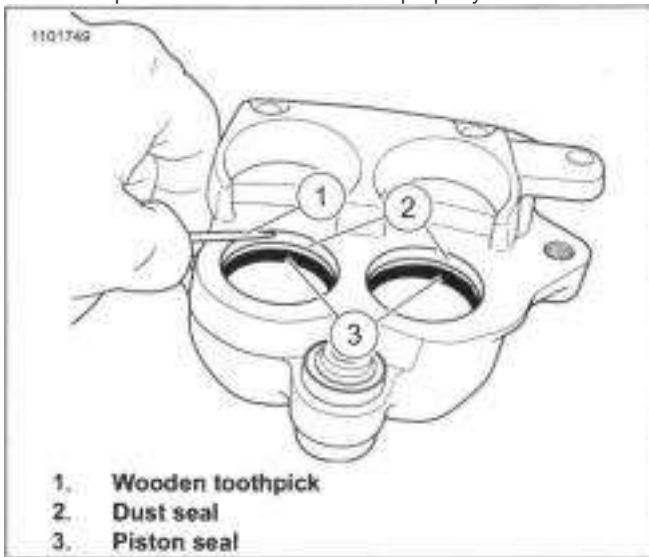

Figure 3-51. Rear Caliper Seals (Typical)
- b. See Figure 3-51. Install the piston seals (3) into the brake caliper piston bore.
- c. Install the dust seals (2) into the brake caliper piston bore.